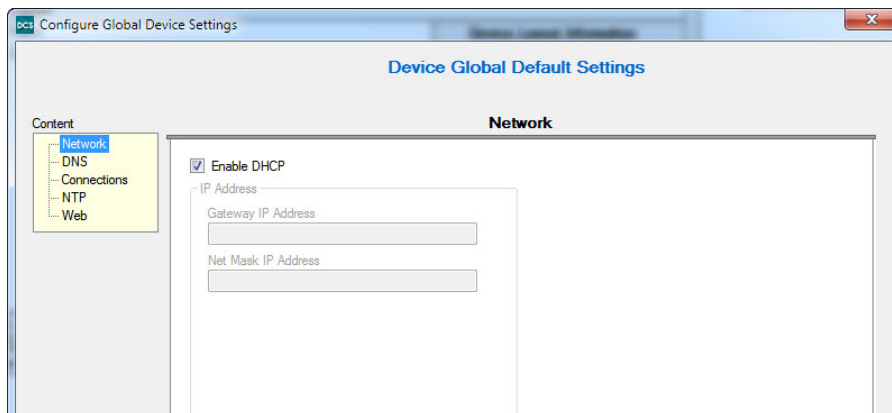

FIG. 38 Configure Global Device Settings Window (Network options)
At the project level, you can set global settings for all devices on the project. Click the Global Settings button to access the Configure Global Device Settings window (FIG. 38). The window contains five separate screens with settings for Network, DNS, Connections, NTP, and Web. Click the option you want in the Content area to view or change the settings for each type.
2. Click **Global Settings**. The Configure Global Device Settings window opens (FIG. 38).